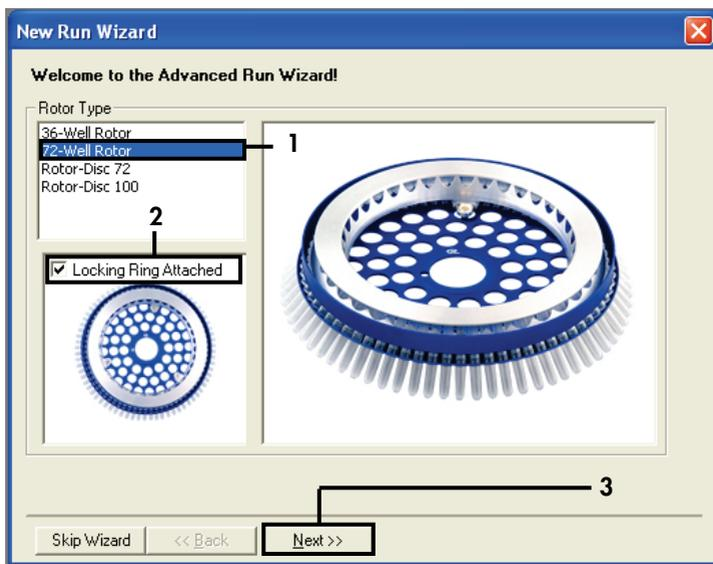

Figure 33. The “New Run Wizard” dialog box and welcome screen. 1 = “Rotor type”; 2 = “Locking Ring Attached” box; 3 = “Next.”
2. Ensure that the correct rotor is selected, and check the **Locking Ring Attached** box. Click **Next** (Figure 33).